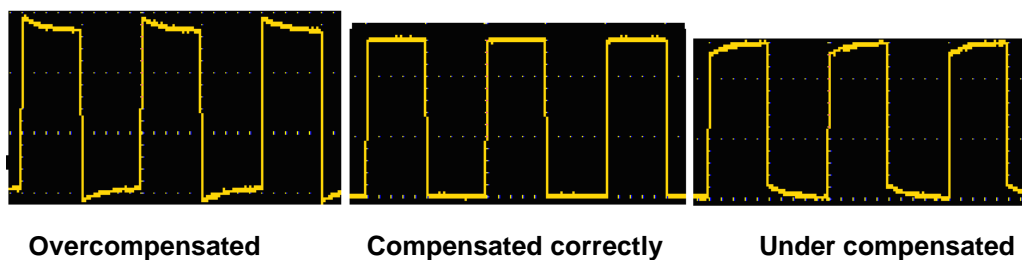
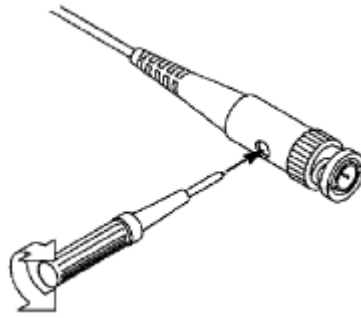

Figure 1-6 Displayed Waveforms of the Probe Compensation
Figure 1-7 Adjust Probe
2. Check the displayed waveforms and regulate the probe till a correct compensation is achieved (see *Figure 1-6* and *Figure 1-7*).